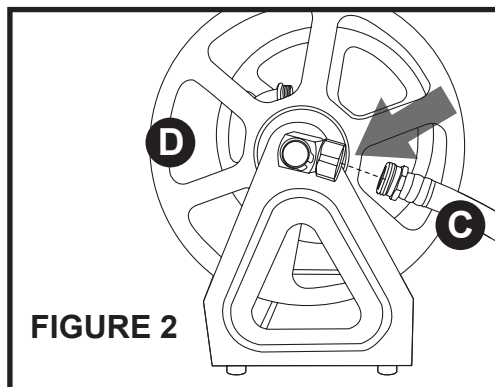

FIGURE 2
2. Attach the leader hose (C) to the swivel connector. **Figure 2**